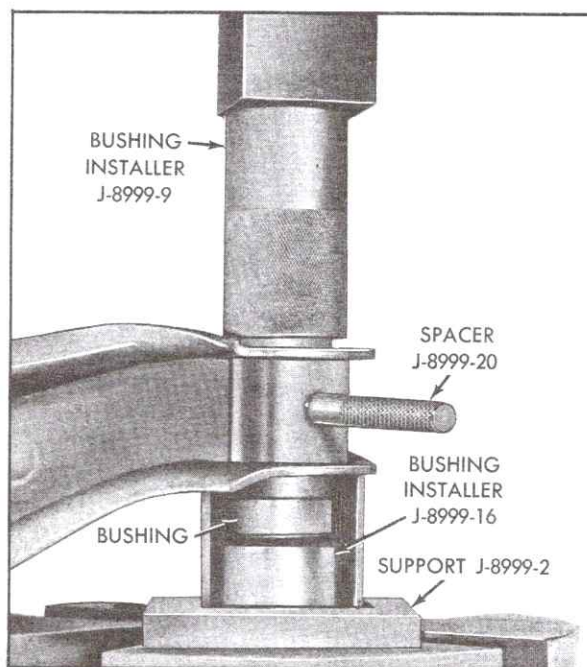

Fig. 3-24 Installing Bushing in Lower Arm
4. Place Bushing Installer, J-8999-16, on Support, J-8999-2, Fig. 3-24.